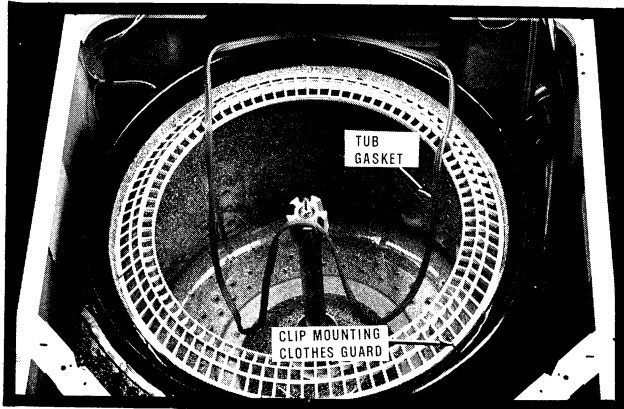

Figure 49
- Raise spinner basket to clear edge of tub. Remove wire clips, *Figure 49*